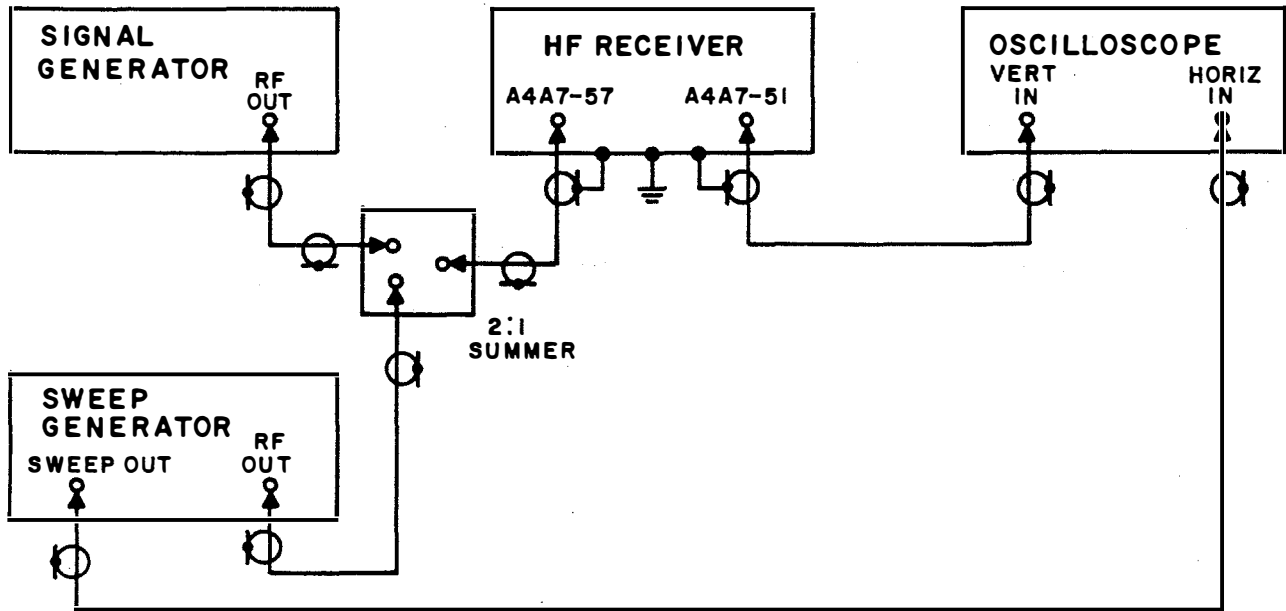

Figure 6-7. FM Discriminator Alignment, Test Setup
| <ul style="list-style-type: none"> <li>(a) Signal generator</li> <li>(b) Sweep generator</li> <li>(c) Oscilloscope</li> <li>(d) 2:1 Summer</li> </ul> <p>(2) Procedures.</p> <ul style="list-style-type: none"> <li>(a) Deenergize the receiver.</li> <li>(b) Remove cards A4A7, A4A9 and A4A10.</li> <li>(c) Place card A4A9 on an extender card.</li> <li>(d) Connect the test equipment as shown in figure 6-7.</li> <li>(e) Set up the sweep generator as follows:             <ul style="list-style-type: none"> <li>1 Power - ON</li> </ul> </li> </ul> | <ul style="list-style-type: none"> <li>2 CW/Sweep - SYM</li> <li>3 Trig/Line/Free - Line</li> <li>4 Fast/Slow/Manual - Fast</li> <li>5 Crystal Cal - OFF</li> <li>6 Range - 11</li> <li>7 Sym Sweep Width Vernier -.1/1</li> <li>8 1 kHz Mod - OFF</li> <li>9 Output Level - -10 dBm</li> <li>10 Frequency - 455 kHz</li> </ul> <ul style="list-style-type: none"> <li>(f) Set up the signal generator for a 455 kHz output, unmodulated, at -25 dBm.</li> <li>(g) Set the receiver front panel Detection Mode control to FM. Note the appearance of the yellow indicator when the pushbutton is depressed.</li> <li>(h) Energize the receiver.</li> </ul> |